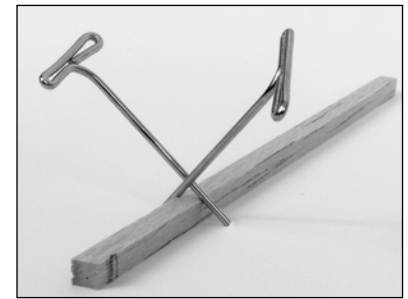

Figure 22 – Cross two pins over the wood to hold it in place.
Use as many pins as needed to hold the wooden pieces in place. Cross two pins over a strip of wood to hold it in place (Figure 22).
3. Cut strips of wood to fit the outline of the bridge, which the three-view sketch provides. Use the hobby knife or the Pitsco Timber Cutter to cut the wood. To ensure a nice fit, cut the pieces a little long on the first cut and trim the ends to fit. Pin each piece into place (Figure 22).